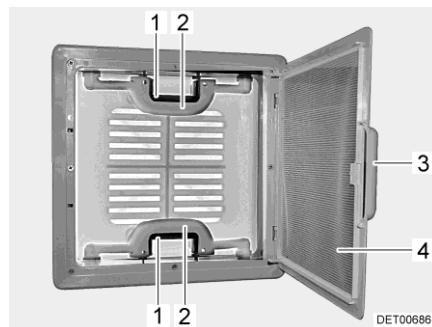

Fig. 61 Skylight with snap latch
- Pull on the handle (Fig. 61,3).
- Fold insect screen (Fig. 61,4) downwards.
- Push the snap latch (Fig. 61,1) towards the inside of the skylight. At the same time use the handle (Fig. 61,2) to press the skylight upwards.
- Swing insect screen (Fig. 61,4) upwards until it latches in place.
- Using both handles (Fig. 61,2), pull down the skylight with force until the two snap latches (Fig. 61,1) lock into place.